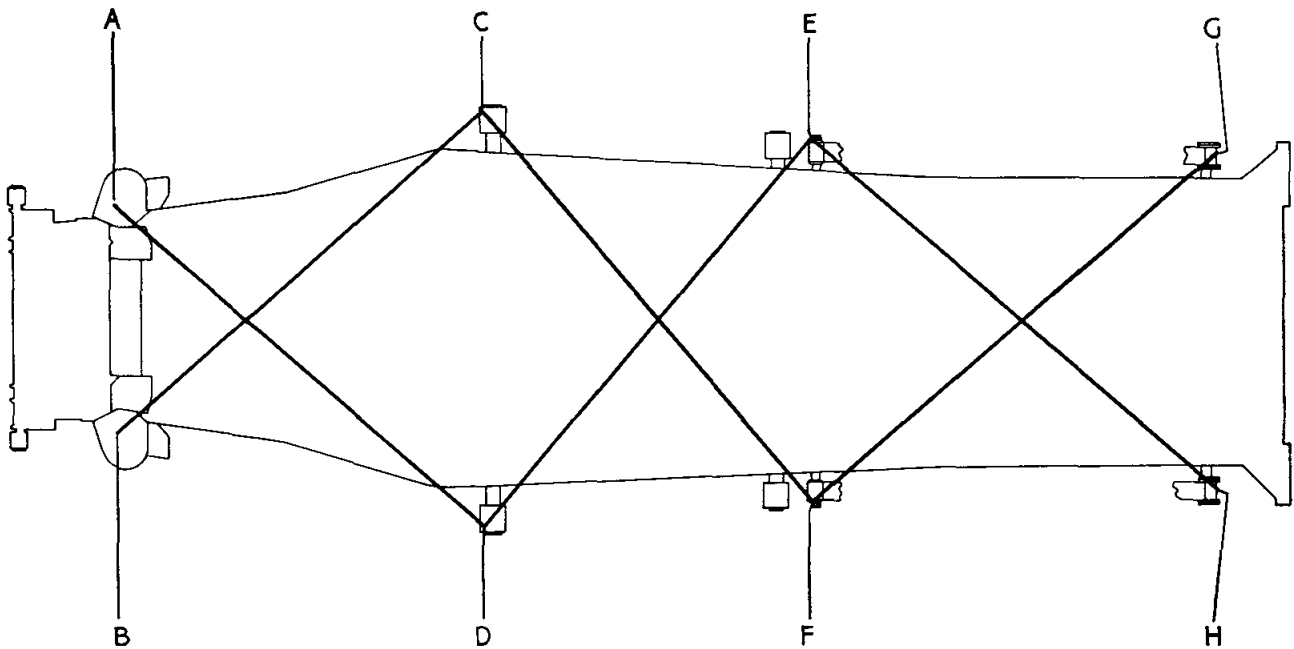

Fig. 4
6. CHECKING SIDE MEMBERS FOR SQUARENESS (Fig. 4)
- (i) When BC, DE, and FG are of greater length than AD, CF and EH respectively the left hand (BH) side member is forward of the right hand (AG) side member.
- (ii) When AD, CF and EH are of greater length than BC, DE and FG respectively the right hand (AG) side member is forward of the left hand (BH) side member.